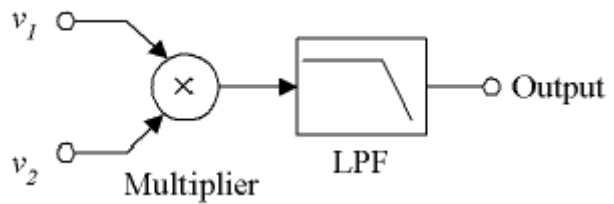

Fig. 3: Synchronous detection circuit
Fig. 3 shows a simple example of the circuit configuration of a synchronous detection circuit. This circuit consists of a multiplier, which multiplies together the two signals, and an LPF that removes just the DC component of the
where A and B are the amplitudes of "v1" and "v2", respectively, and θ in equation (2) is the phase difference from "v1" due to reactance. If synchronous detection as shown in Fig. 3 is performed using "v1" and "v2", the result can be expressed by the following equation: